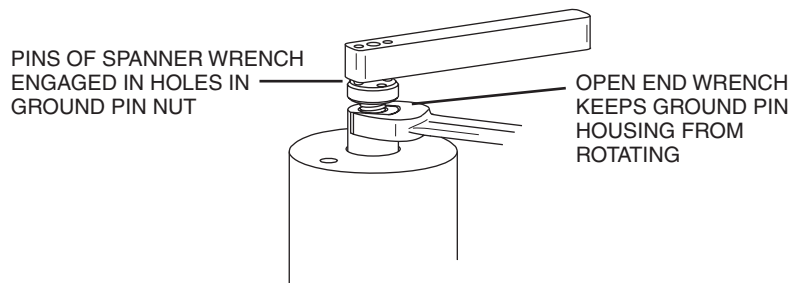

Figure 2: Loosening the ground pin nut
4. Engage the pins of the spanner wrench in two of the holes in the ground pin nut, and gently unscrew the ground pin nut while supporting the housing. **(Figure 2)**